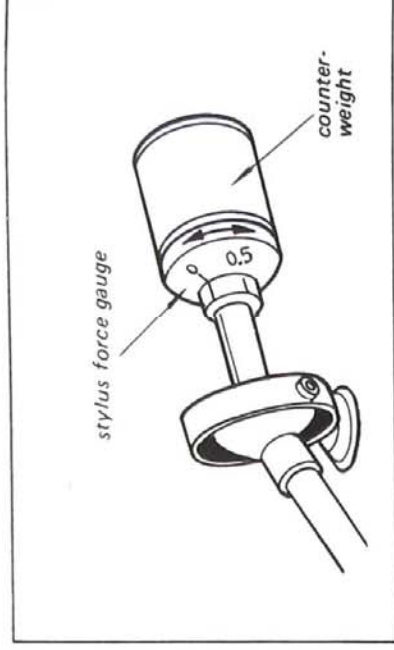

Fig. 3-6. Longitudinal balance adjustment
2. Horizontally balance the tonearm by turning the counter weight at the rear of the tonearm, and set the stylus force gauge ring to "0" while holding the counter weight as shown in Fig. 3-6.
2. Horizontally balance the tonearm by turning the counterweight at the rear of the tonearm, and set the stylus force gauge ring to "0" while holding the counterweight as shown in Fig. 3-6.